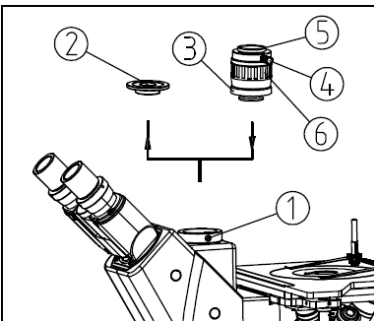

Fig.22
- (1) Loose the lock-screw ① on tri-tube and take off the tri-cap ②. (Fig 22)
- (2) Take off the caps of TV adapter ③ and settle on tri-tube and lock by screw ①.
- (3) Loose the lock-screw ④ on TV adapter and take off C-mount ⑤. Then set the C-mount to CCD or camera and connect to TV adapter again, lock on.
- (4) Adjust the image clear through binocular then observe through CCD. If it is not clear, you can adjust the adjusting ring ⑥ till clear